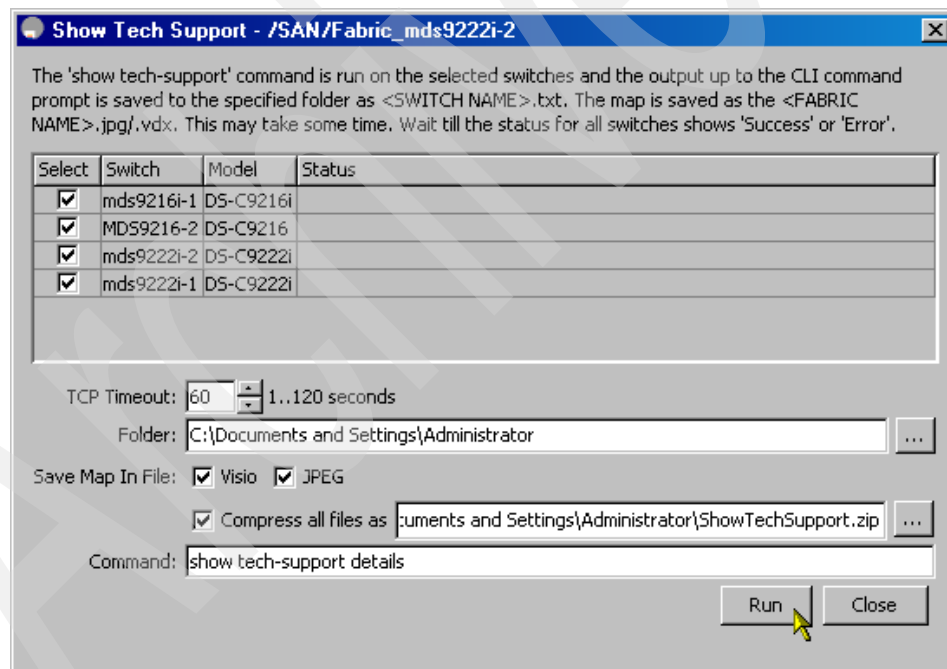

Figure 8-24 Select MDS switches to collect tech support data
2. Select the switches from which to view tech support information by checking the check boxes for each switch, as shown in Figure 8-24.
3. Set the time-out value. The default is 30 seconds (Figure 8-24).
4. Select the folder where you want the text files (containing the tech support information) to be written (Figure 8-24).
5. Check the **Save Map** check box if you want to save an image of your map as a JPG file (Figure 8-24).
6. Check the **Compress all files as** check box to compress the files into a zip file, as shown in Figure 8-24.
In Figure 8-24 there are switches for we want to capture tech support data along with all the parameters that we need to set.